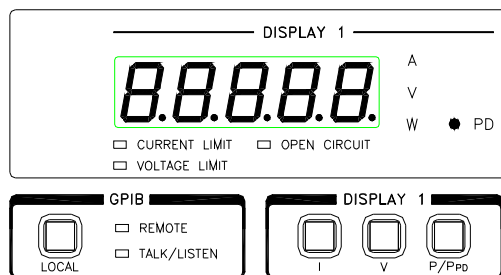

Figure 3.6 Display 1
The left-hand display, labeled Display 1, shown in Figure 3.6, is used to show the laser control parameters of laser drive current (A), laser forward voltage (V), (peak) optical power setpoint (W), and measured optical power from an external photodiode (W PD). In addition, limits for laser current and compliance voltage may be displayed here.
Press the I button in the Display 1 Adjust box (Figure 3.6) to display laser current setpoint in Amps. Next, rotate the Adjust knob to the current setpoint required. If no other button is pressed, the Adjust knob will remain active to allow adjustments to the current without any intervening keypresses. However, if any other button is pressed (with the exception of the P/P_{PD} button), the I button must be pressed again before drive current can be changed. In the case of the P/P_{PD} button, drive current is being adjusted in the “background” in an effort to change the output in terms of optical power.